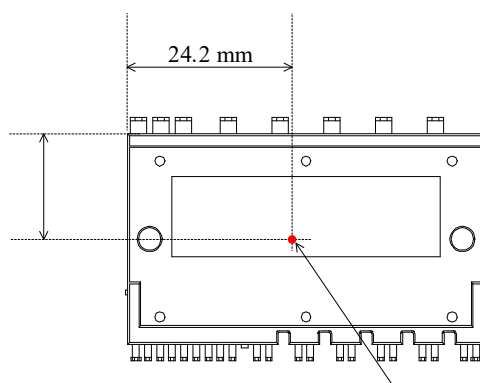

Figure 2-1. Case Temperature Measurement Point
| Operating Case Temperature (2) | $T_C$          | For measurement point, see Figure 2-1.                             | -40 to 125 | °C   |